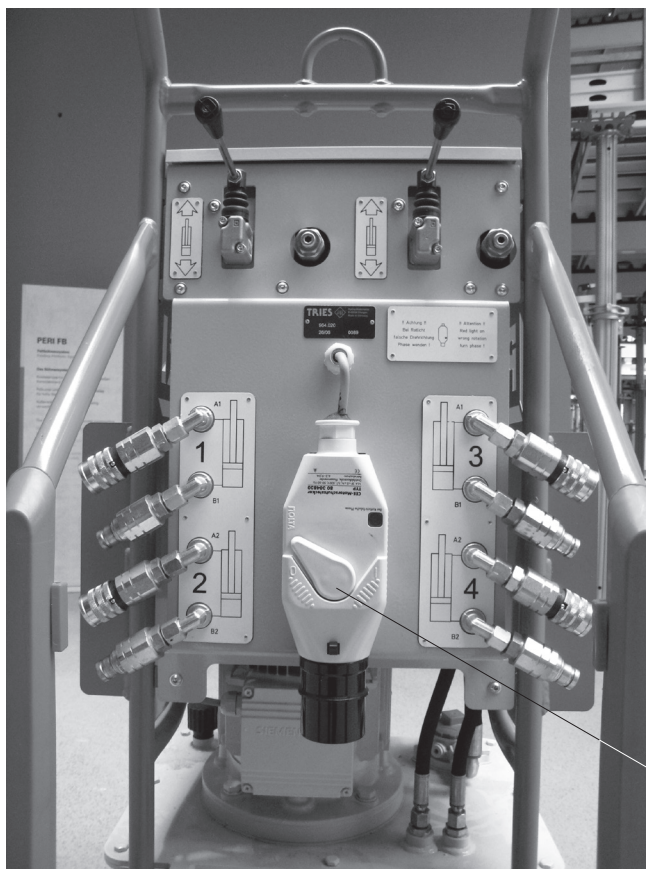

Fig. 17
1. Turn the toggle on the protective motor switch (**12.3.5**) to the right. (Fig. 17)